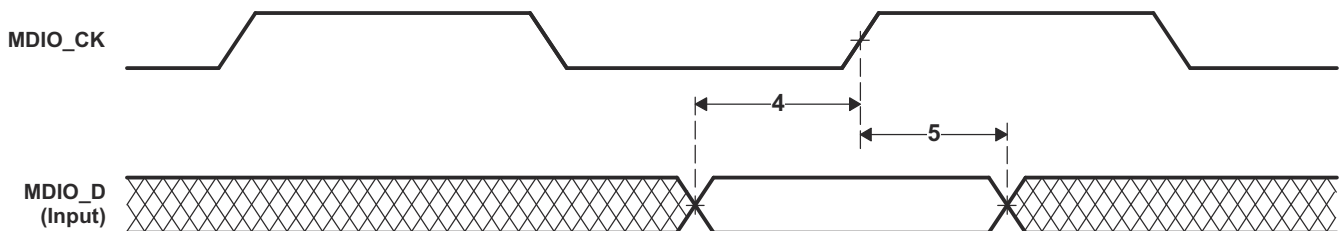

图 7-42. MII Serial Management Timing - MDIO as Input
7.11.6.4.5 Timing Requirements for MDIO as Input (see 图 7-42)